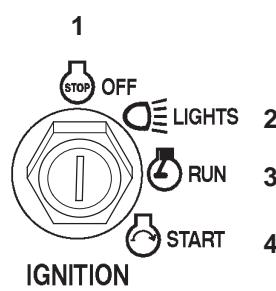

Figure 10
8. Turn the ignition key clockwise and hold it in the start position (Fig. 10). When the engine starts, release the key.
4. Turn the ignition key to off (Fig. 10).